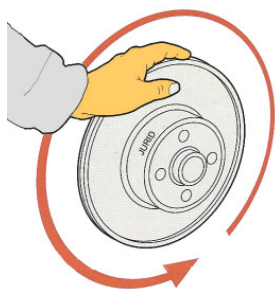

Figure 4
- ✓ (Brake disc will turn easily – see **Fig. 4**).